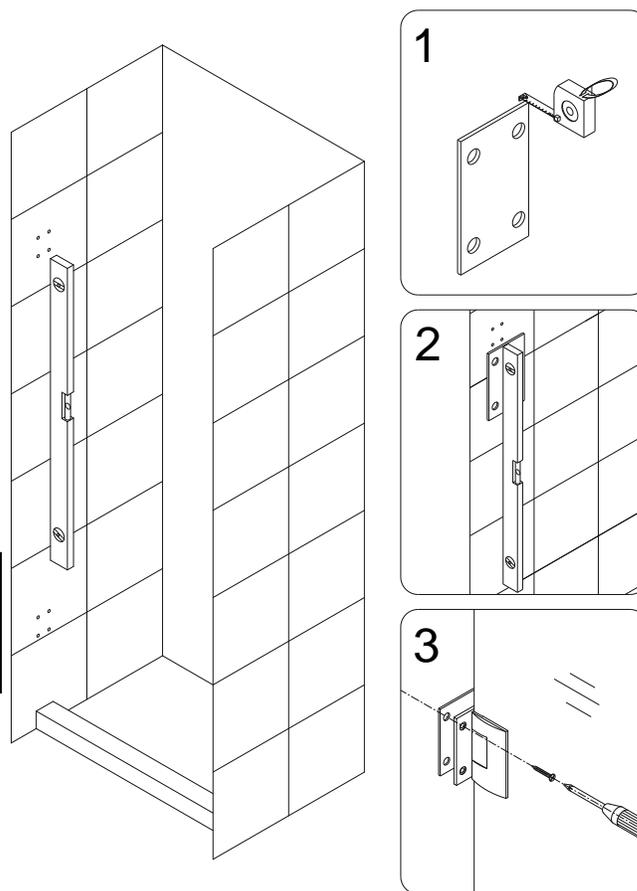

Fig. 4
3. Hold the door in place and mark the drill holes for both **Hinges (05)** on the wall. Set the door aside and use a  $\text{Ø } 1/4\text{"}$  drill bit to drill holes up to the stud. Drill 1/8" pilot holes into the stud if necessary.
**The included PVC hinge spacers (31) are provided to compensate for minor out-of-plumb wall conditions. Use only as necessary as their use could compromise the opening size of your shower. Please see Fig 4 for an installation example\*.**
4. Place the **Door Glass (01)** back onto the threshold along with the 5/8" spacers and attach both hinges to the wall with two **Countersunk screws ST5×70 (04)** on the hinge from outside of the shower. Then open the door and install the remaining screws to both wall plates from the inside.
**(Fig 3 and Fig 4)**